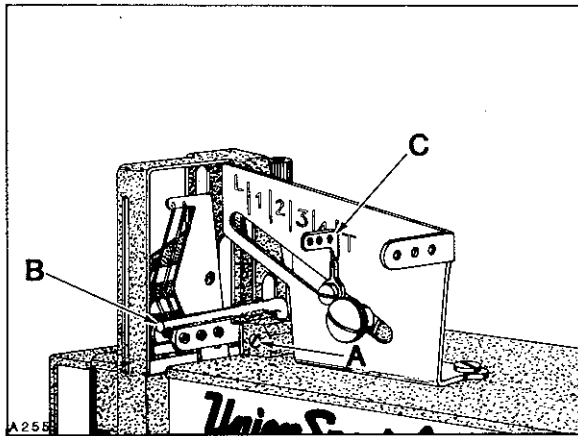

Fig.26
adjustable eyelet (C, Fig. 26) set at "T". Loosen screw (A) and position strike-off (B) as specified and retighten screw. Thread tension on needle thread should be just enough to pull up uniform stitches. Thread tension applied on looper thread should be just enough to steady thread.